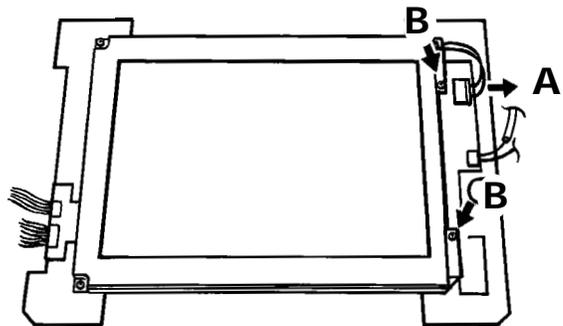

Figure C2.3a Display removal (1)
- Turn the display unit over and orient it as shown in figure C2.3a
- Disconnect the backlighting connector ('A' in figure C2.3a).
- Undo the two securing screws ('B' in figure C2.3a)